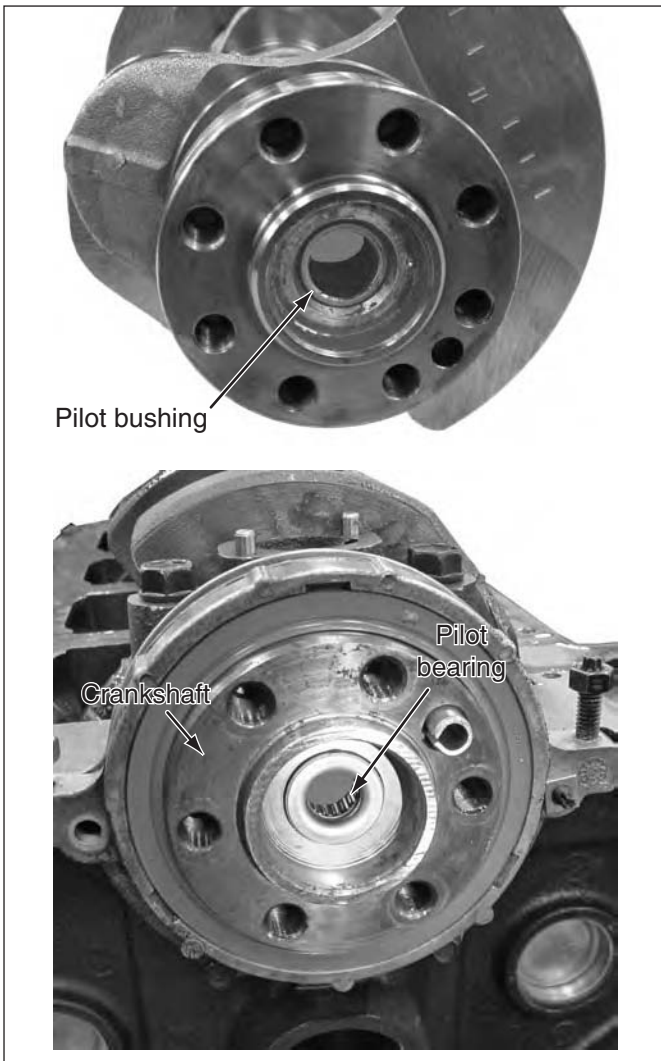

FIGURE 17.71 Check the pilot bushing or bearing. These are commonly replaced when a new clutch is installed. (Courtesy of Tim Gilles)
- Check to see that the pilot bushing or bearing for the transmission input shaft is installed at the rear of the crankshaft and in good condition (**Figure 17.71**). If the bushing must be removed, use a puller (**Figure 17.72**). On vehicles with pilot bearings, a trick that sometimes works is to pack the cavity behind the bearing with grease, and then insert the largest bolt that will fit into